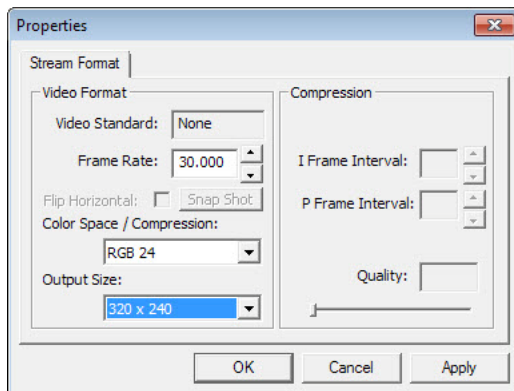

Figure 11-4. Configuring the video format
**Video Size** sets the resolution of the video data. The resolution depends on the video camera used. If you click the  button, *Recorder* opens an interface to DirectX® (Figure 11-4) that allows you to configure the video format. (This button is not available if your camera does not support different resolutions.)